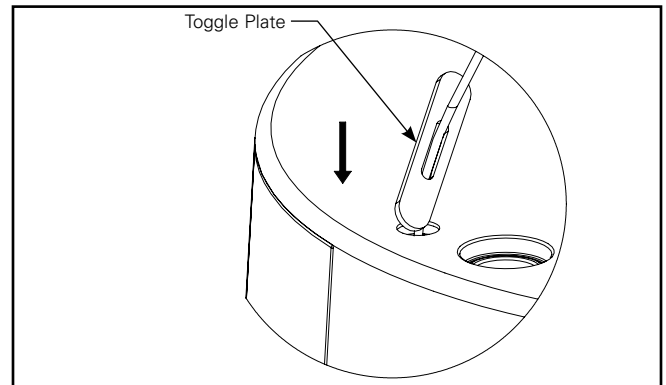

Figure 3.2.
- B. Keep toggle plate length side perpendicular to hub top surface and insert into hole (Figure 3.2).